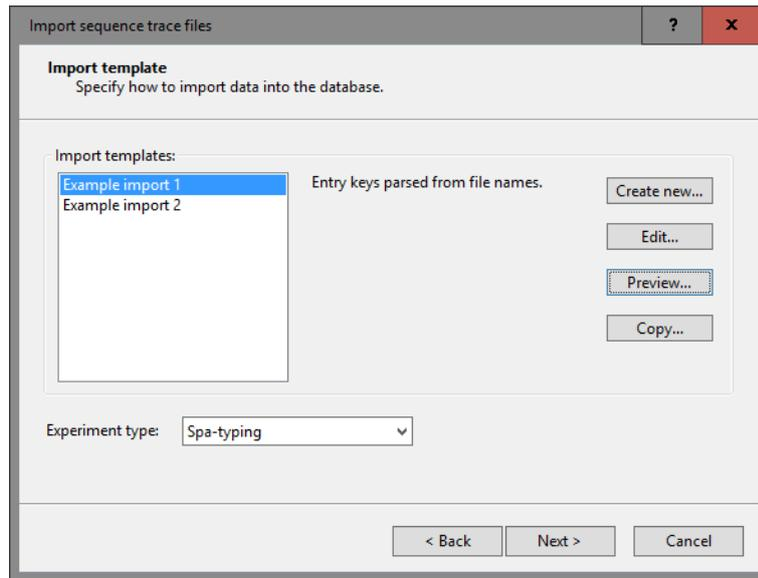

Figure 1: Import sequence trace files.
7. Make sure the *Example import 1* template is selected, and select the *Spa-typing* from the *Experiment type* list (see Figure 1).